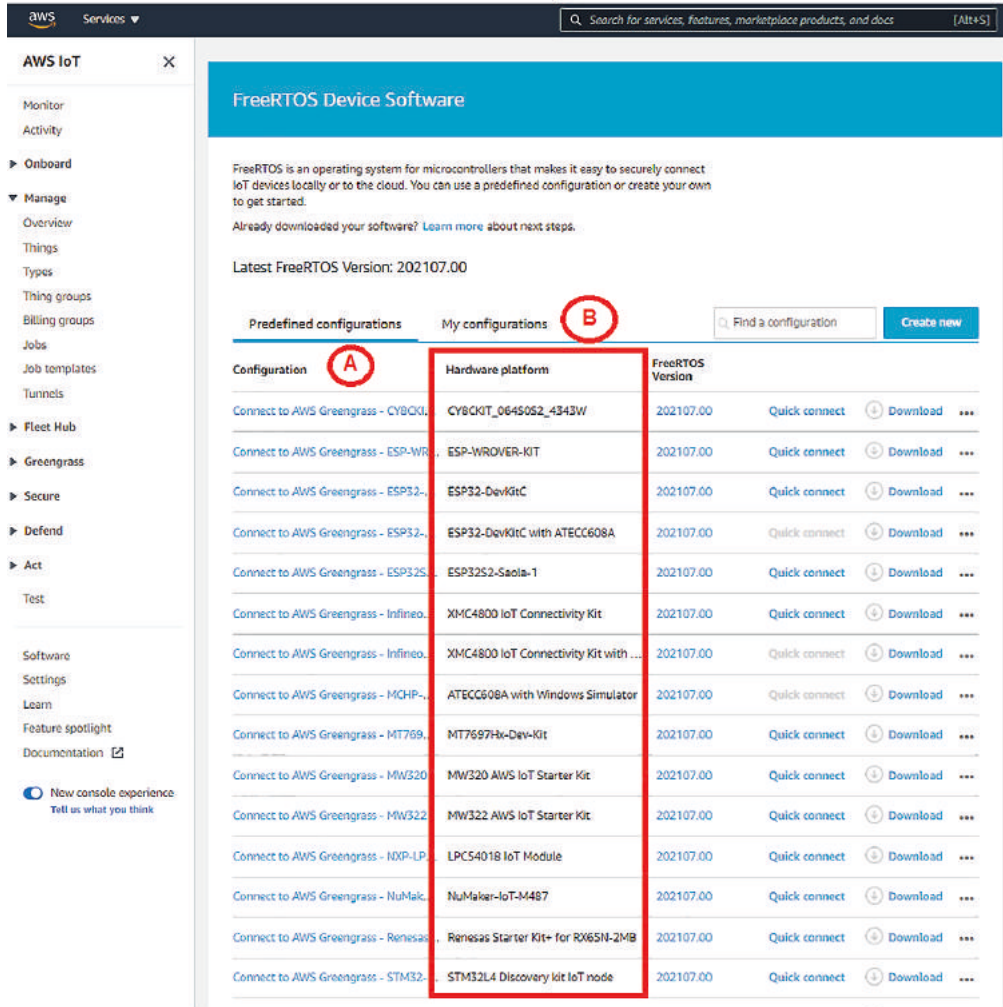
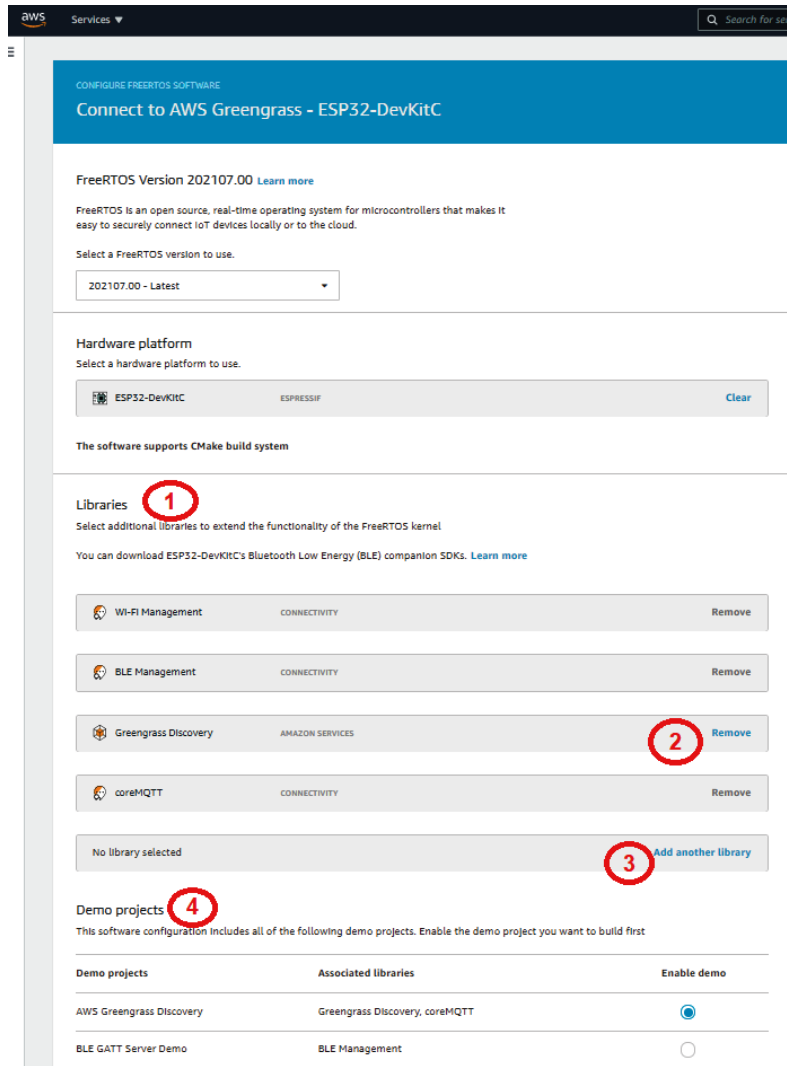

Figure 3.3 – Amazon FreeRTOS software from the AWS Management Console
Figure 3.4 – Amazon FreeRTOS software – configuring libraries
In the preceding screenshot (*Figure 3.3*), note the following:
- The circle with the letter **A** in *Figure 3.3* shows the predefined configuration or built-in software libraries that come with this version of Amazon FreeRTOS, which are supported by the selected hardware or microcontroller device. If you click on this link, you will see those built-in libraries. You can remove some of these libraries if they are optional or removable, and you can also add libraries if needed; we will show that in the screenshot in *Figure 3.4*.
The circle with the letter **B** in *Figure 3.3* shows you that you can customize or build your own version of Amazon FreeRTOS by selecting the libraries you want:
In *Figure 3.4*, note the following: